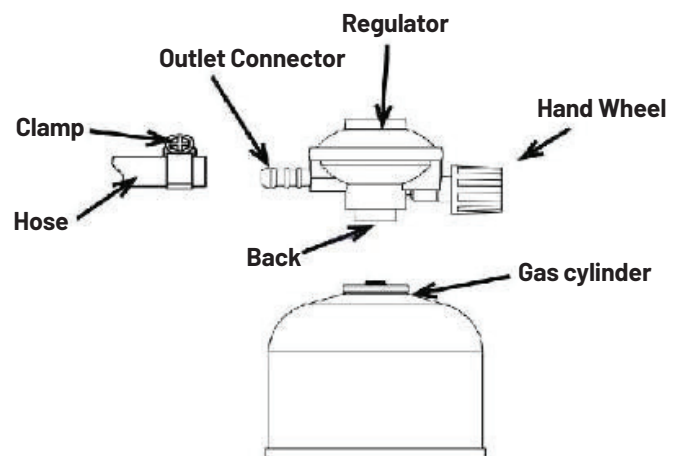

Figure 5
1. Connecting the Regulator: Attach the regulator using a PVC hose that complies with EN1763, and secure it with a hose clamp. The pizza oven is pre-assembled with both the regulator and the hose (Figure 5).